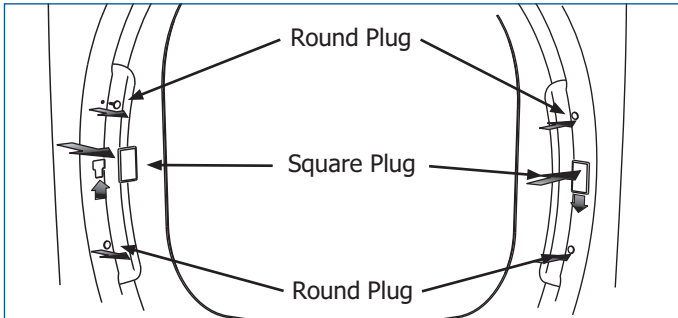

Figure 2-20.
1. Carefully pull out the 2 small round hole plugs from the front panel and save. Remove and save the square "T" slot cover by sliding it up and pulling it out. Move all 3 plugs to the opposite side of the front panel and insert. (See Figure 2-20)